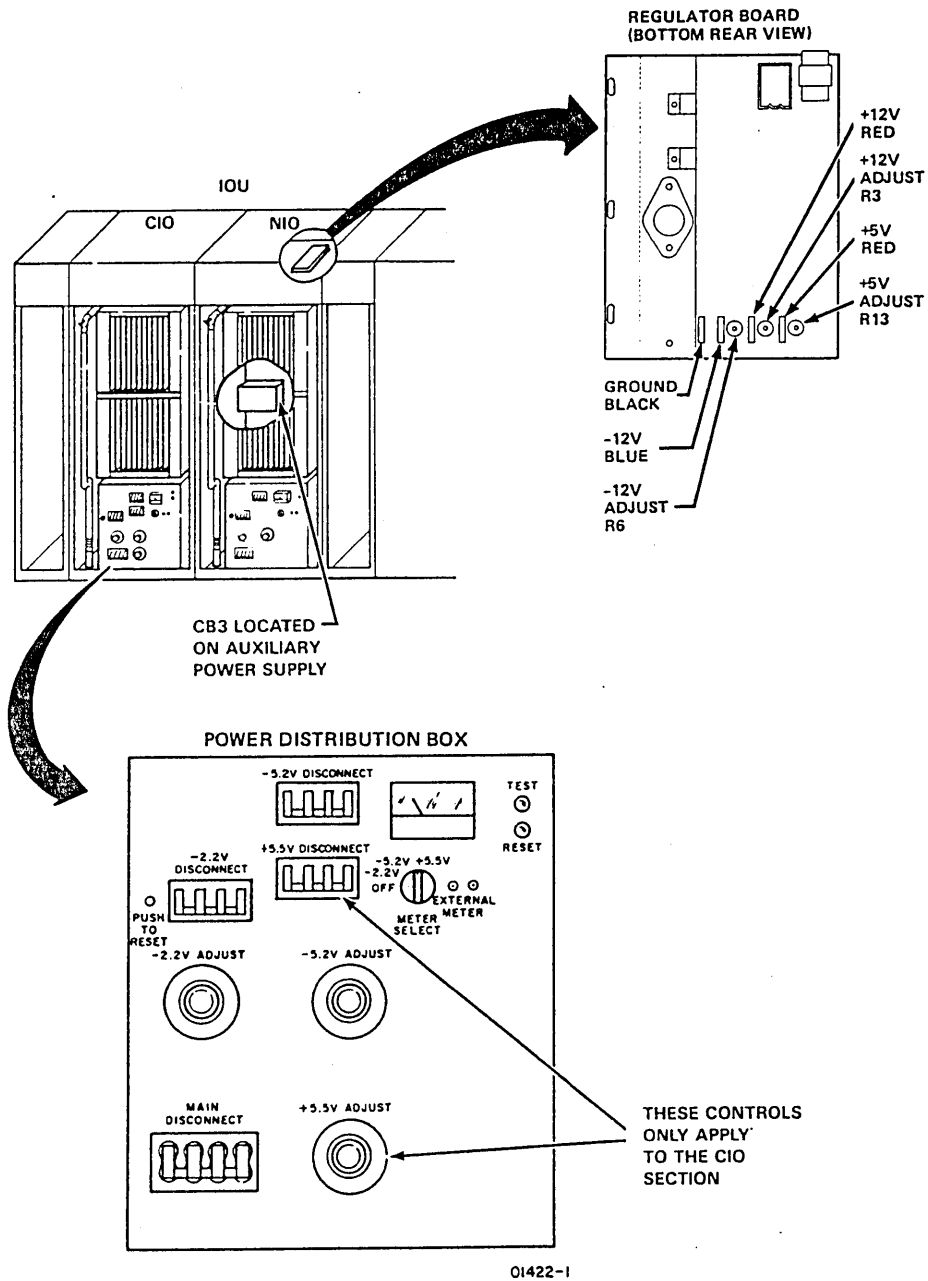

Figure 3-46. IOU Power Controls and Adjustments
- ___ 2. Apply CIO cabinet power by sequentially setting section circuit breakers (figure 3-46) as follows: